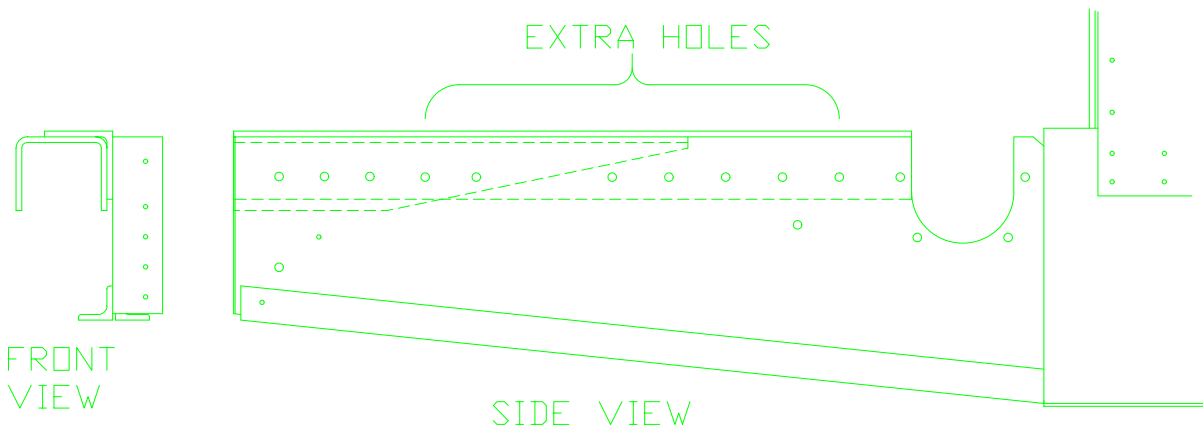

FIGURE 8
10) Position the FUS-300 engine mount bracket and drill seven extra #11 holes through shear web, angle and bracket. Figure 8.